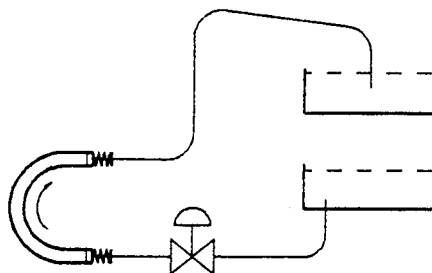

Figure 2.4 - Layout for Viscous Products, Flooded Suction
- Flooded suction – Fit a safety device that will cut in if the tubular element breaks. For corrosive or dangerous substances, provide a retaining compartment. (See Figure 2.4.)